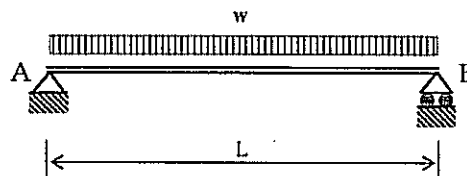

Fig. 2(a)
- a.) Using the Moment Area Method, find the slope at A for the simply supported beam shown in Fig. 2(a), ( $EI = \text{constant}$ ).